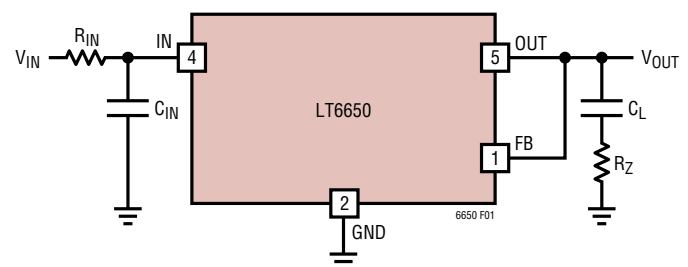
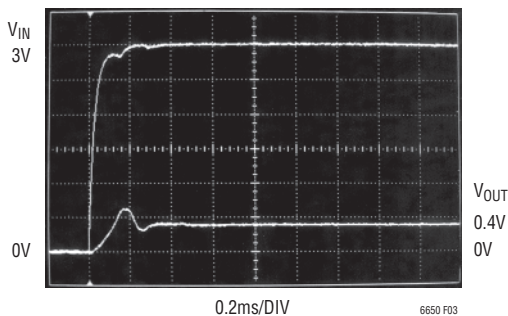
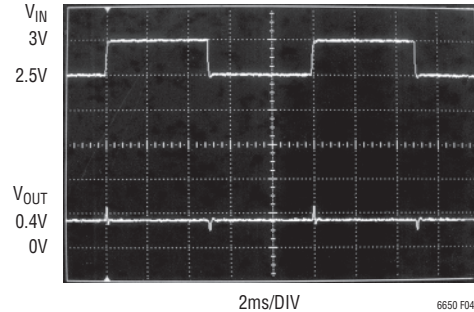

Figure 1. LT6650 Input-Output Configuration
Figure 3. LT6650 Turn-On Characteristic
Figure 4. Output Response to  $\pm 0.5\text{V}$  Input Step
**TYPICAL PERFORMANCE CHARACTERISTICS** (See Applications, Figure 1)
# TYPICAL PERFORMANCE CHARACTERISTICS (See Applications, Figure 1)
functions. Output impedance can be reduced by DC loading of the output by  $40\mu\text{A}$  to  $200\mu\text{A}$ , and/or adding an  $R_Z$  to the output capacitor for a  $100\mu\text{s}$  time constant as shown in Figure 1 and the Typical Performance Characteristics graphs.
operated from a small battery or other relatively high impedance source, a minimum  $1\mu\text{F}$  capacitor is recommended. PSRR can be significantly enhanced by adding a low-pass RC filter on the input, with a time-constant of 1ms or higher, as shown in Figure 1. The Typical Performance Characteristics graphs show performance as a function of several combinations of input and output capacitance.
Figure 3 shows the turn-on response time for the circuit in Figure 1. The input voltage steps from 0V to 3V, and the output is configured to produce 400mV. Input bypass and output load capacitance are  $1\mu\text{F}$ ,  $R_{\text{IN}} = 0\Omega$ ,  $R_{\text{Z}} = 0\Omega$ , and the output settles in approximately 0.5ms. Figure 4 shows